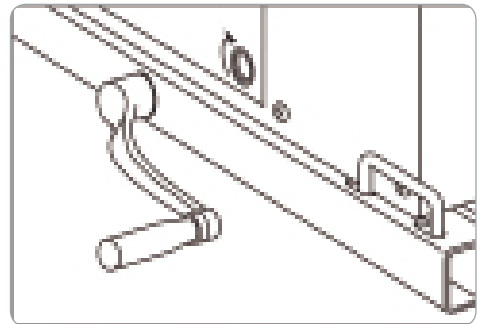

Fig. 7.3
- Insert crank handle(Fig.7.3)and move it clockwise to its stop or until blocking;the circuit-breaker is racked into its service position.Observe the position indicator on the switchgear panel.
- Insert crank handle(Fig.7.3)and move it counter-clockwise to its stop;the circuit-breaker is racked into its disconnected position.Observe the position indicator on the switchgear panel.